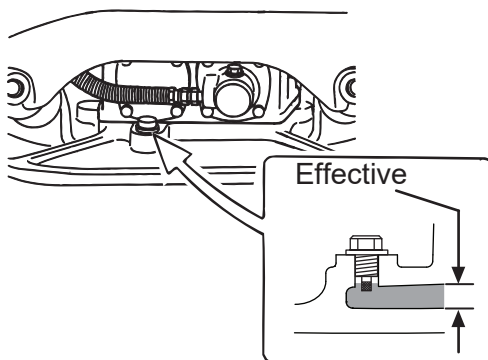

Fig.9
- At every 100 hours of operation, set the machine on a level surface and remove the oil gauge of the vibrator. Check the oil level to see if it is within the allowable range. (Fig.9)